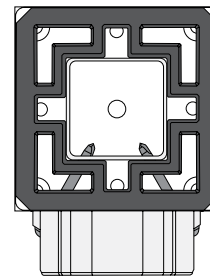

Figure 7
- 11.) Look down from the top of post to make sure screws are penetrating steel post (Figure 7).